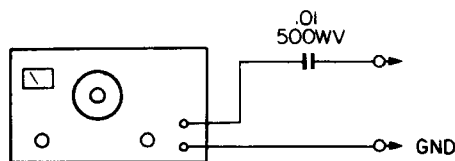

Fig. 15
- As shown in Fig. 15 SSG must be used with a ceramic capacitor of 0.01 μ F (500WV).